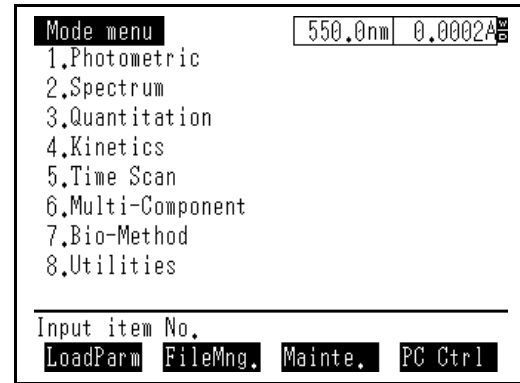

Fig. 3.3
- 1 Press the **F3** [Maint.] key in the Mode menu screen (Fig. 3.3).
- 6** Press the  key to return to the Mode menu screen (Fig. 3.3).